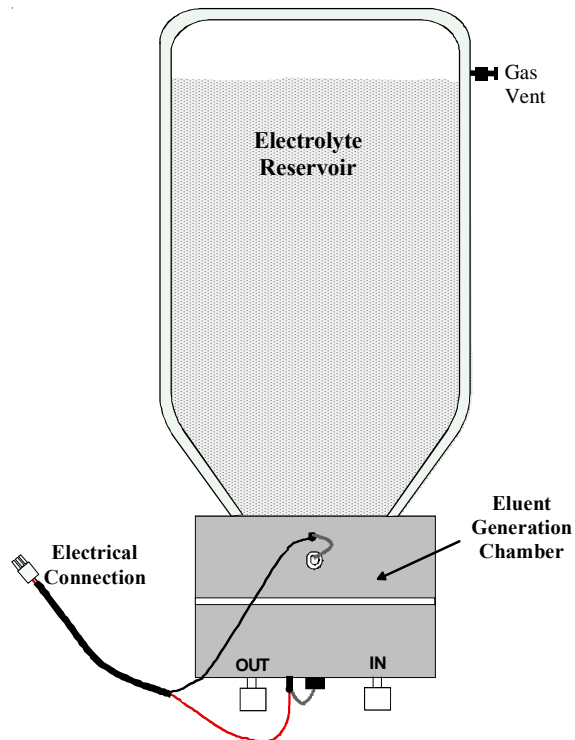

Figure 10
6. **IMPORTANT. Invert the EluGen Cartridge with the Eluent Generation Chamber downward as shown in Figure 10, “EGC Cartridge.” Shake the EluGen Cartridge vigorously, and tap the eluent generation chamber with the palm of your hand 10 to 15 times. Watch to be sure all bubbles trapped in the eluent generation chamber are dislodged. Be sure to repeat this process each time the EGC cartridge is turned with the eluent generation chamber upward.**
9. Plumb the SRS Suppressor “REGEN OUT” port to the Degas Assembly “SRS WASTE IN” tubing (located at the upper front of the degas assembly). See Figures 10, 11, and 12 in Section 2.9 and 2.10 for plumbing diagrams.